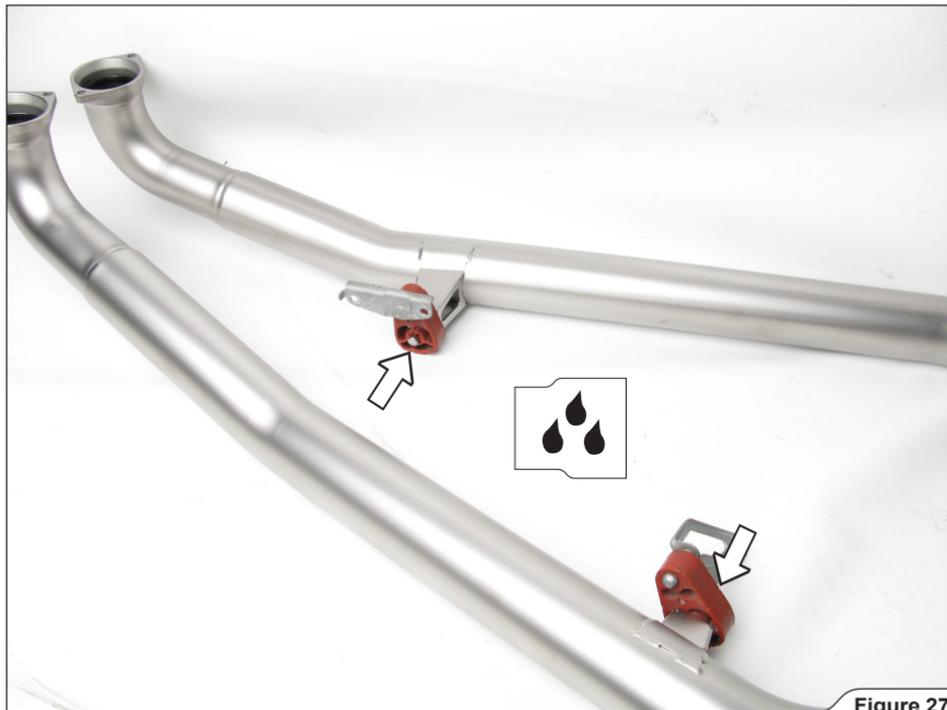

Figure 27
7. Reposition the original rubber brackets onto the Akrapovič link pipes, as shown (Figure 27).